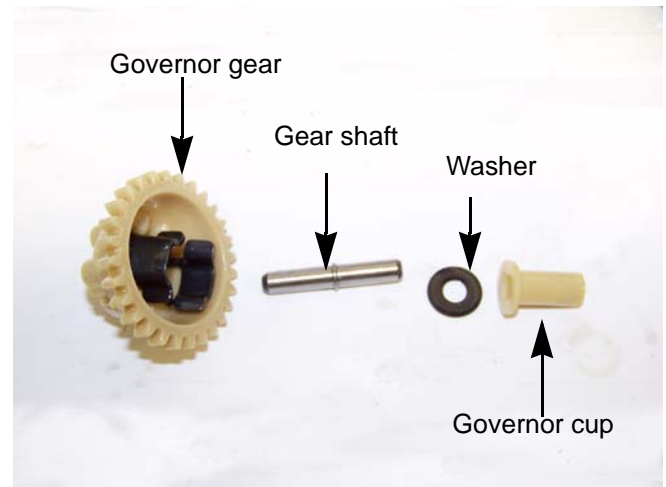

Figure 4.31
6. Slide the shaft out of the gear and cup. See Figure 4.31.